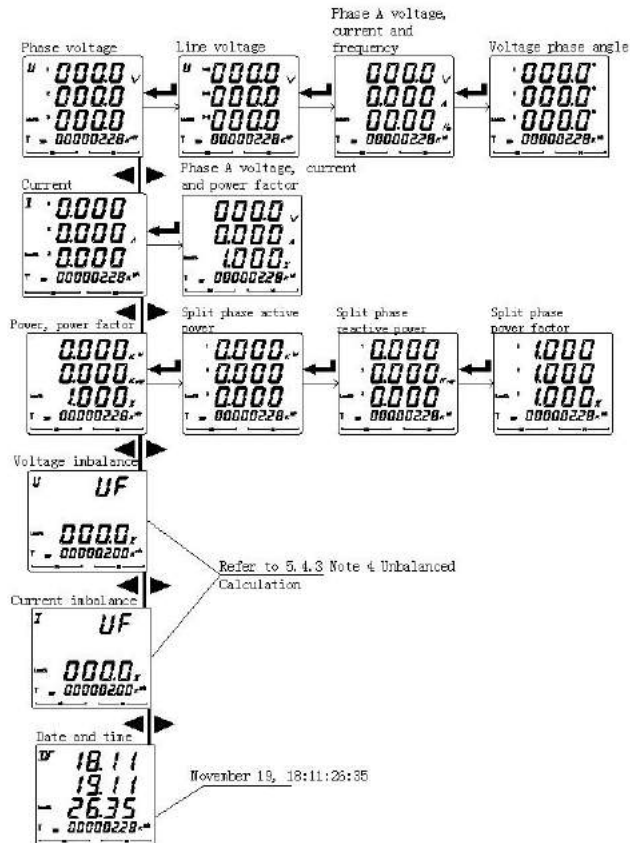

Figure 14
5.2.4 View the power parameters of the AMC72L/96L as shown in Figure 14.